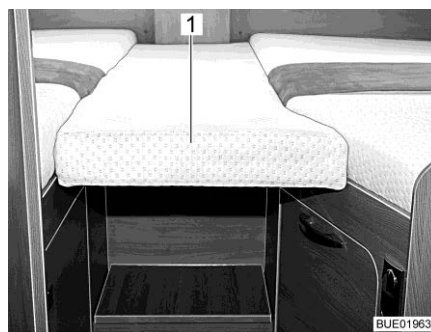
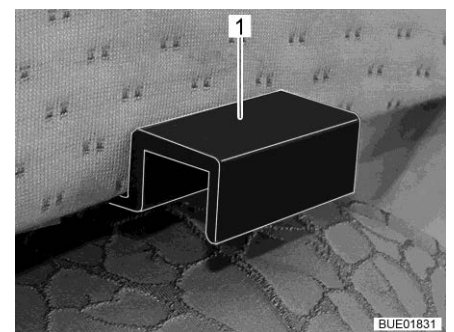

Fig. 126 Additional cushion
Fig. 127 Additional cushion holder
- Hook the additional cushion (Fig. 126,1) with the holders (Fig. 127,1) into the panels of the single beds so that a closed lying surface is created.